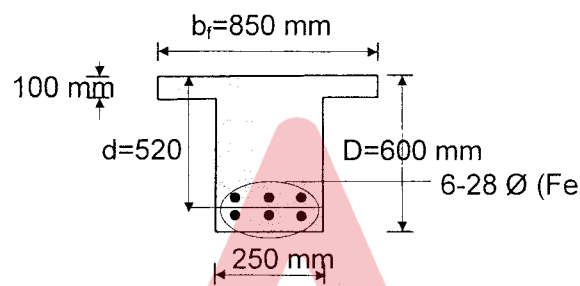

Fig. 1
- Determine the ultimate moment of resistance for the T-beam section of effective width of 850 mm shown below (Fig. 1). Assume M20 grade concrete and Fe 250 grade steel. (40)